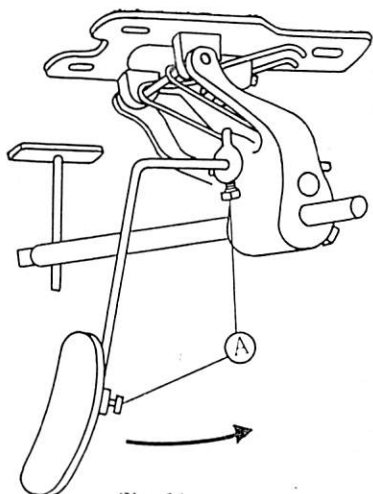
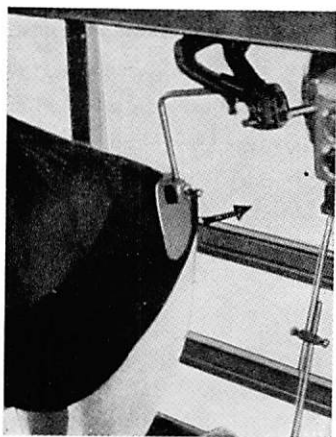

Fig. 14
Fig. 15
The zigzag width of throw of this embroidering machine can be regulated by the knee press as shown in Fig. 14. From your sitting position, make certain that the knee press smoothly contacts the tip of your right knee (Fig. 15).
If your knee is not correctly contacting the knee lifter, adjust it by loosening the screw ① Fig. 14.